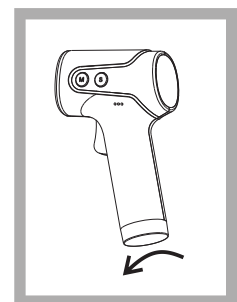

Figure 8
2. **Turn battery cover clockwise** as shown in Figure 8.